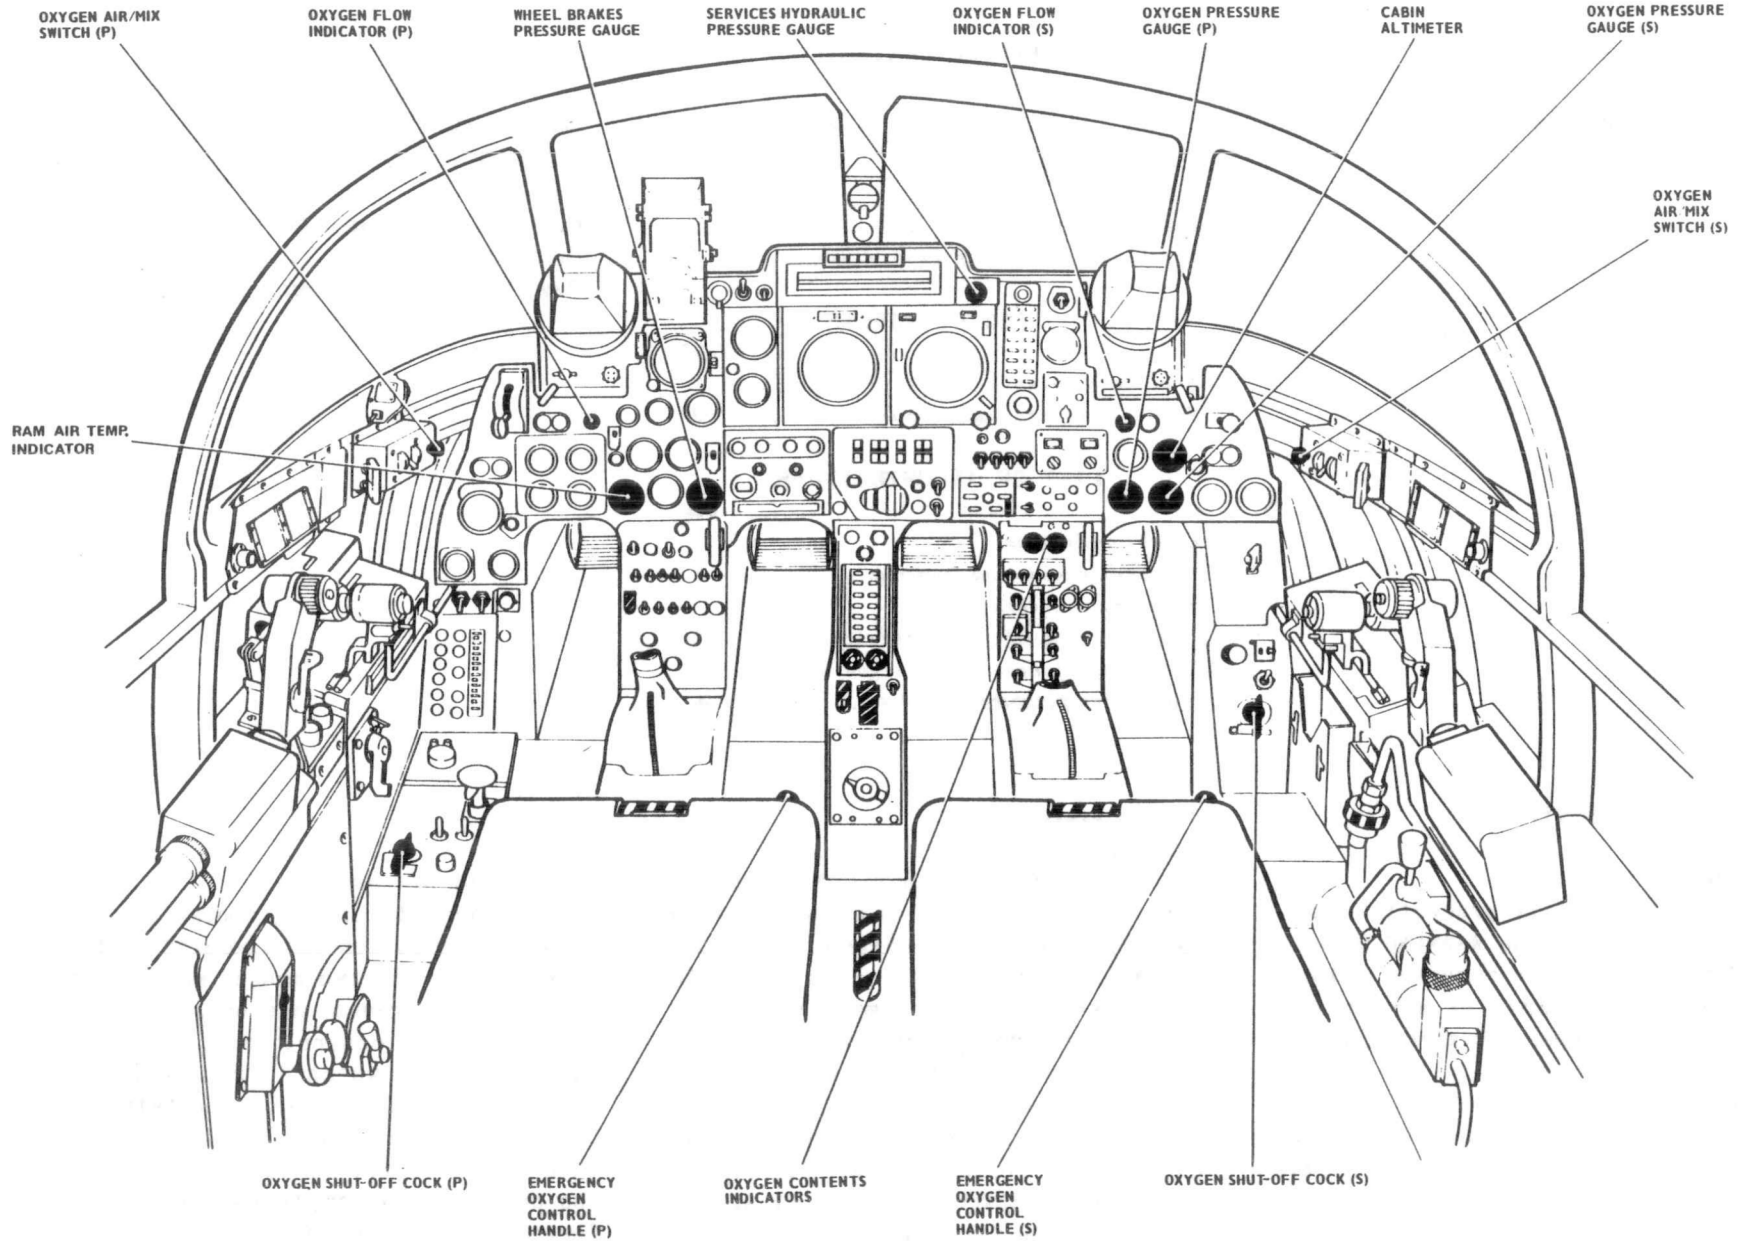

FIG.1. MISCELLANEOUS INSTRUMENTS
1. The information given in this chapter applies to the instruments which are not included in a functional group. The locations of those installed in the cockpit are illustrated in fig.1.